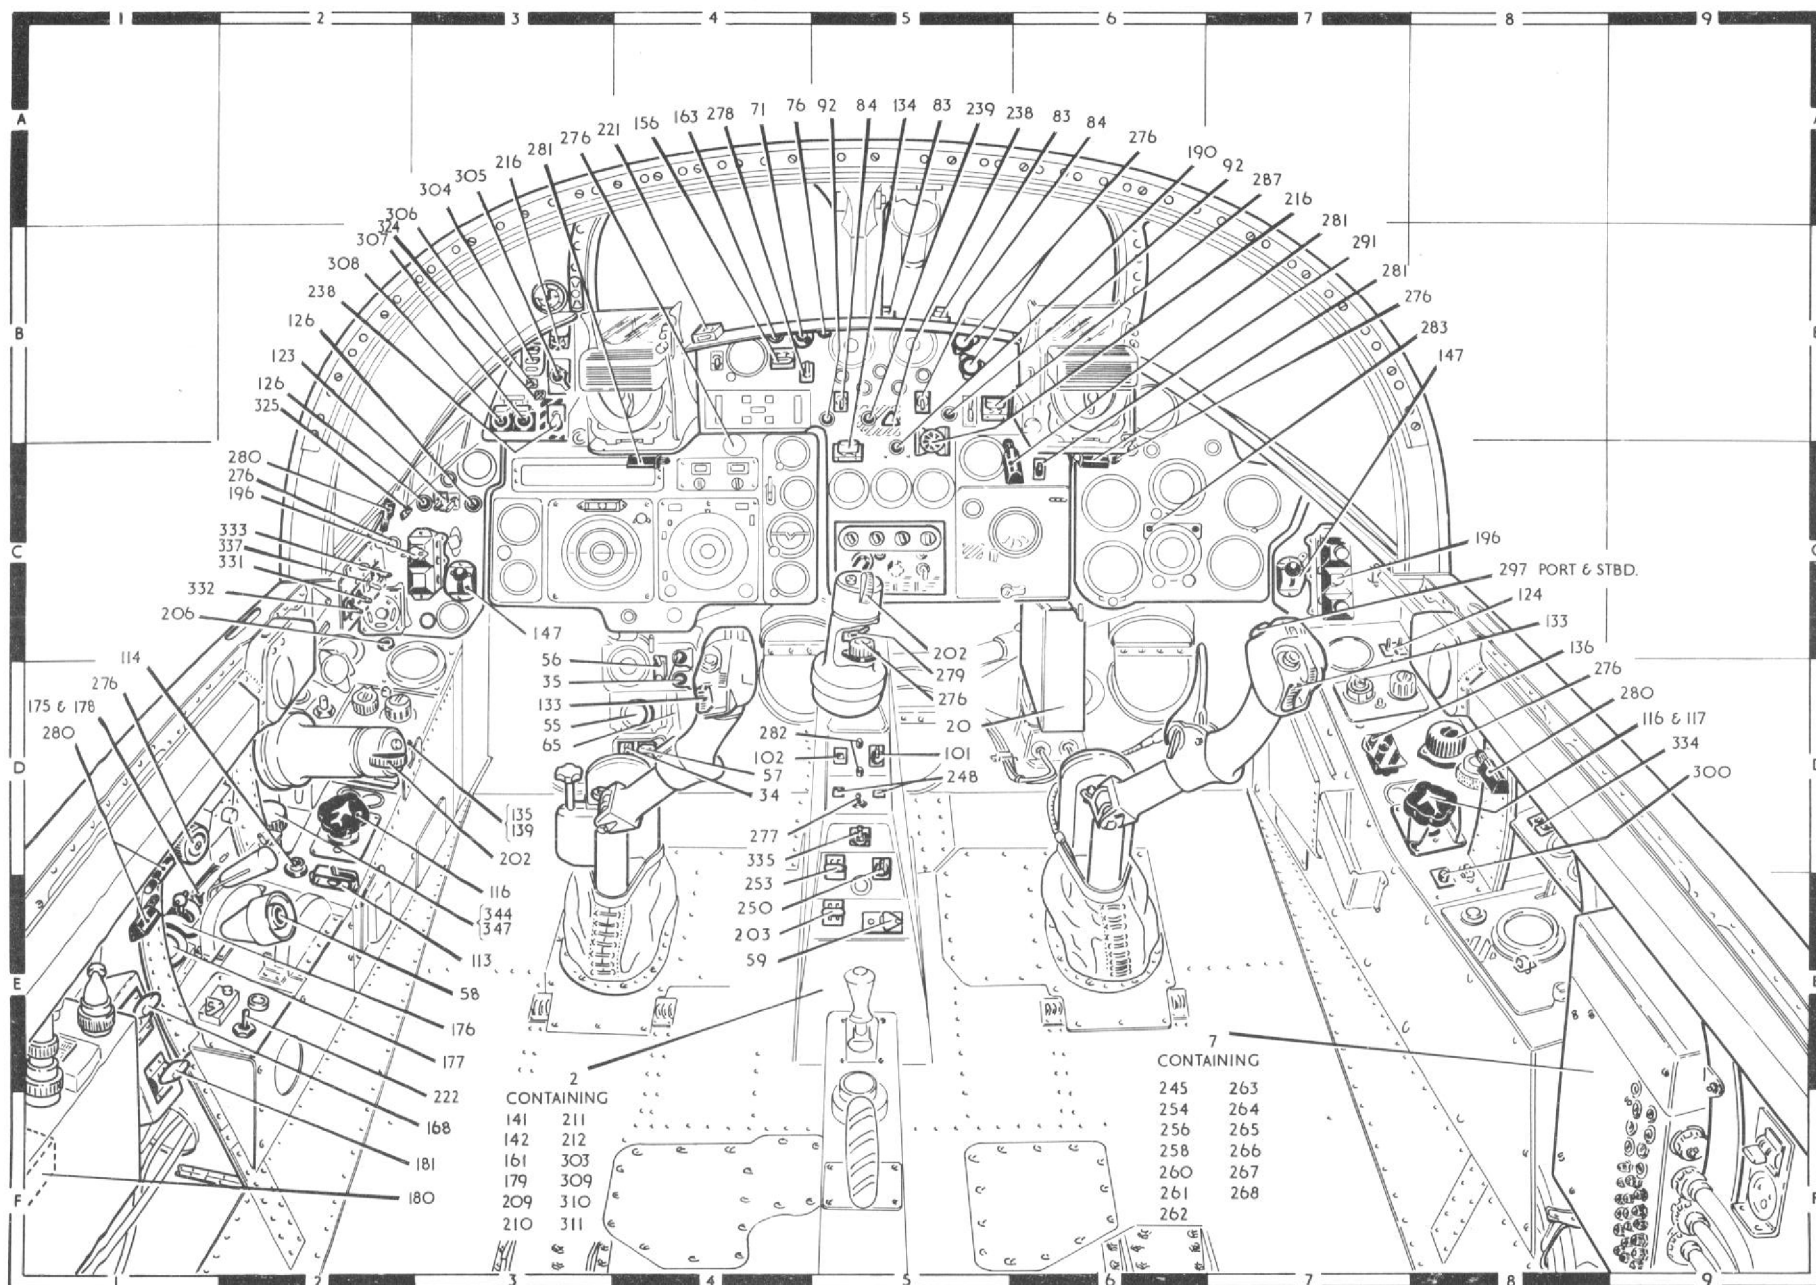

Fig. 1 Equipment location — cabin
3. The location of the electrical equipment in the aircraft is illustrated in fig.1 to 5 inclusive. These illustrations should be used in conjunction with the master index of electrical equipment, given in Table 1, when it is required to locate